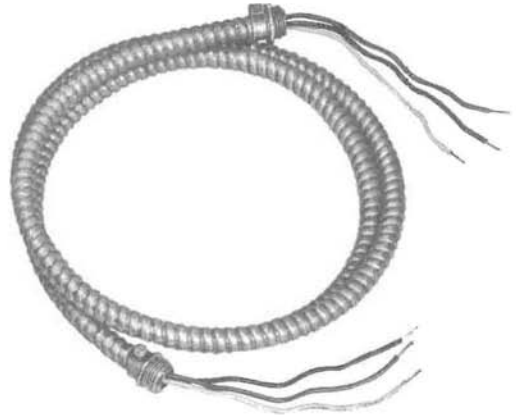

Fig. 5—KS-19425, List 24 Power Cable Assembly
- KS-19425, List 24 power cable assembly (Fig. 5):** Used to bring power from the KS-19426, List 17 circuit breaker box to the electrical receptacle located above the ceiling.